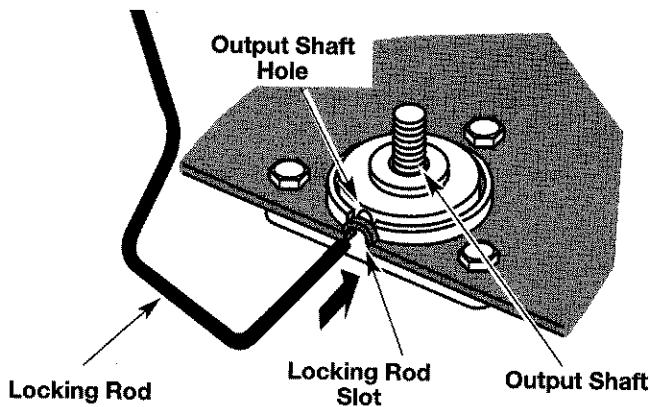

Fig. 30
1. Line up the hole in output shaft with the locking rod slot. Insert the locking rod through the slot into the output shaft hole (Fig. 30).